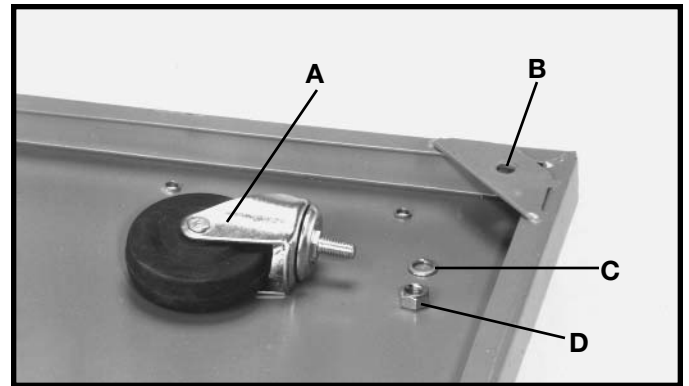
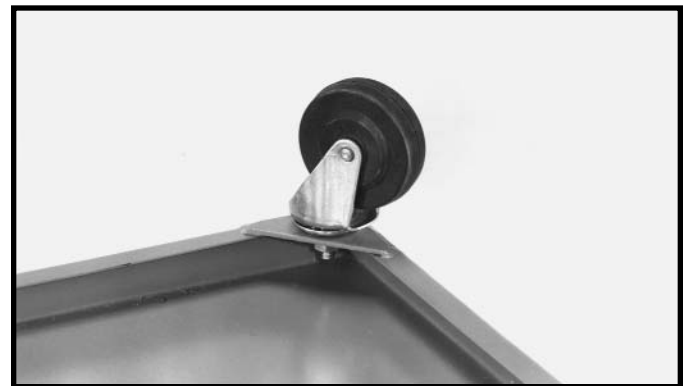

Fig. 4
Fig. 5
1. Insert threaded rod of caster (A) Fig. 4, into the hole located on the underside of base (B) and fasten with 3/8" lockwasher (C) and 3/8-16 hex nut (D). Fig. 5, illustrates the caster fastened to the base.